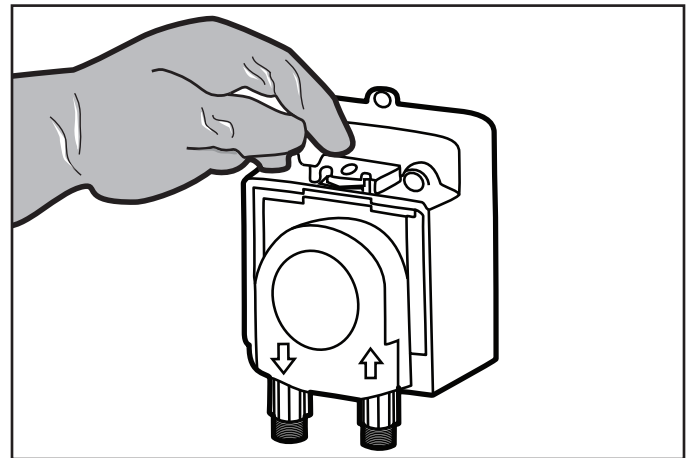

Figure 17. Unlock the Cover Latch
2. Remove the Phillips locking screw on the latch. Slide the vertical tab 180 degrees from left to right to unlock the cover latch. See Figure 17.